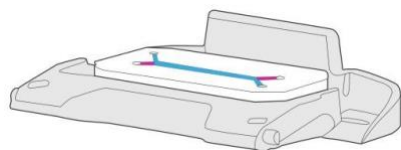

Figure 3: View of chip with no excess ER-1 solution on surface
- Remove all excess ER-1 solution from the surface of the chip by gently aspirating. Be sure only to remove ER-1 solution from the chip surface—do not aspirate ER-1 from the channels (See Figure 3 below).